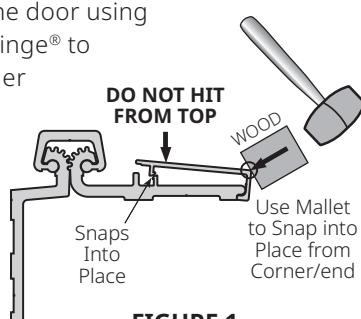

FIGURE 1
5. Install the six (6) #12-24 x $3/4"$ self drill/tapping screws in the six (6) $7/32"$ holes located in the door leaf portion of the hinge.
8. Open the door. Enlarge the $1/4"$ holes on the inside face of the door using a $3/8"$ dia. drill. Finish attaching door leaf portion of PemkoHinge® to the face of the door using the four (4) thru-bolts and shoulder bolts. Thru-bolts attach from inside face; shoulder bolts attach from the outside of face.
9. To complete the installation, secure the cover by hooking the edge away from hinge gears under the door leaf and then snap the other edge over using a rubber mallet on far side, working from top to bottom. Adjust so top of cover is flush with top of hinge (See **Figure 1**).